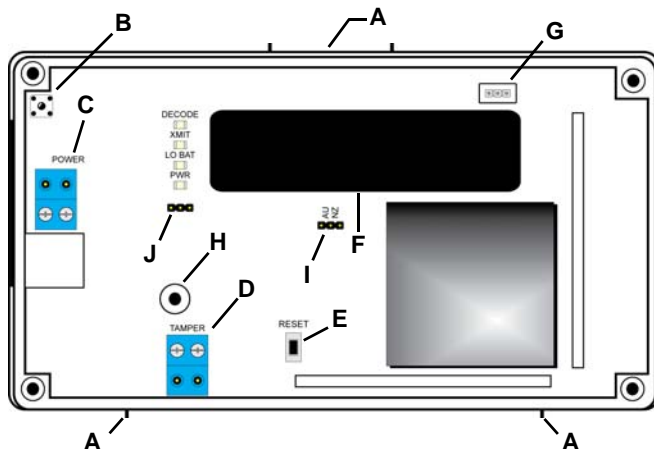

Figure 3 High power repeater internal components
1. Use a small screwdriver to press the top housing release tab and separate the housing (Figure 3).
4. Use a small screwdriver to press the housing release tab on the top or bottom of the high power repeater (Figure 3); separate the housing.
5. Connect power cabling (Figure 3).